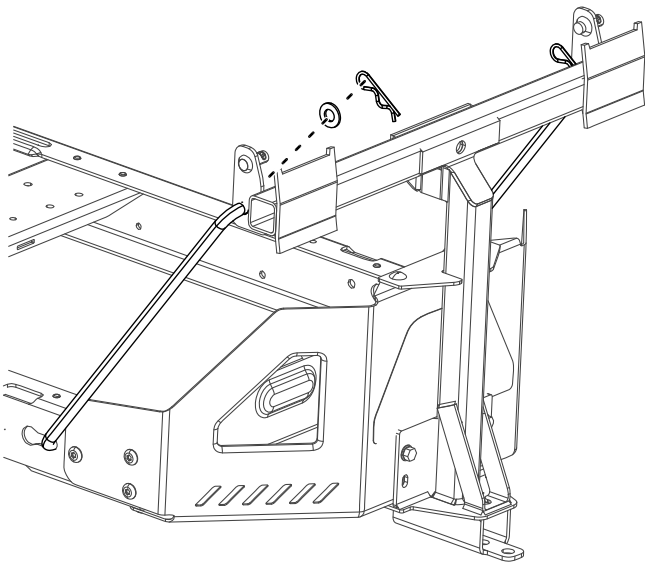

Figure 10
4. Install the bent, flared end of a rod into the keyed slot in the left side of the machine frame, and move the rod rearward to seat it in the frame (Figure 10).
5. Insert the bent ends of the rods into the attachment mount as shown in Figure 10 and secure the end of each rod with a washer and hairpin cotter.